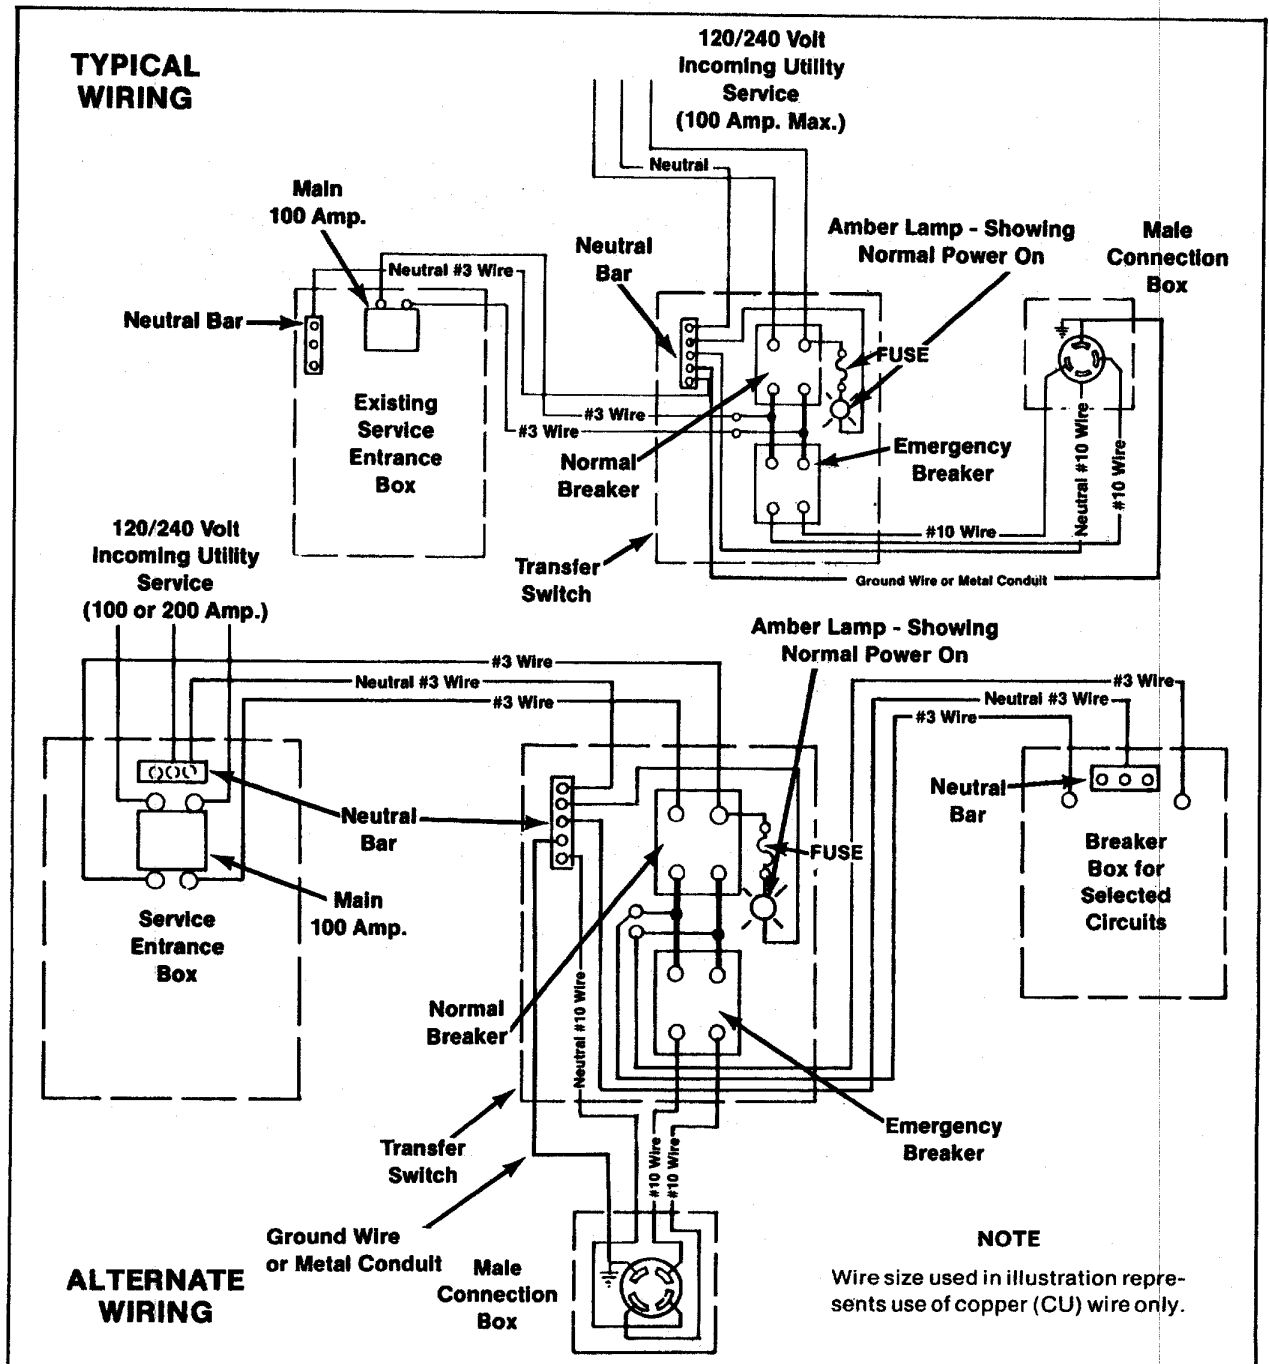

Figure 2-6. Switch Connection — 100/60 Amp.
4. Connect neutral lead (white taped) from transfer switch neutral bar to main service panel neutral bar. See Figure 2-6.
5. Connect leads from load lugs of transfer switch (two outer) to service panel main breakers as shown in Figure 2-6.